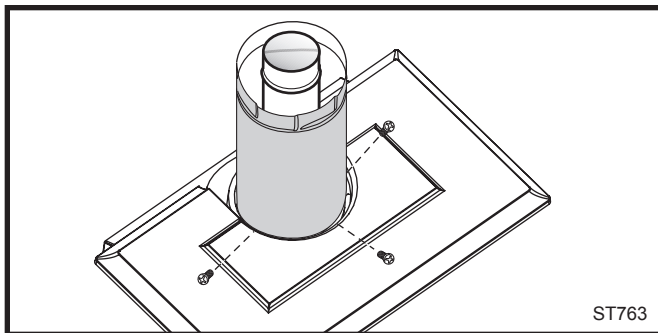

Fig. 21 Simpson DuraVent - install outer adapter pipe.
3. **Install the Outer Adapter Pipe.** Apply a 1/4" bead of cement around the outside surface, about one inch from the crimped end. (Fig. 21) Orient the vertical seam to the rear, and insert the crimped end of the outer pipe into the flue collar. Fasten with three sheet metal screws provided.